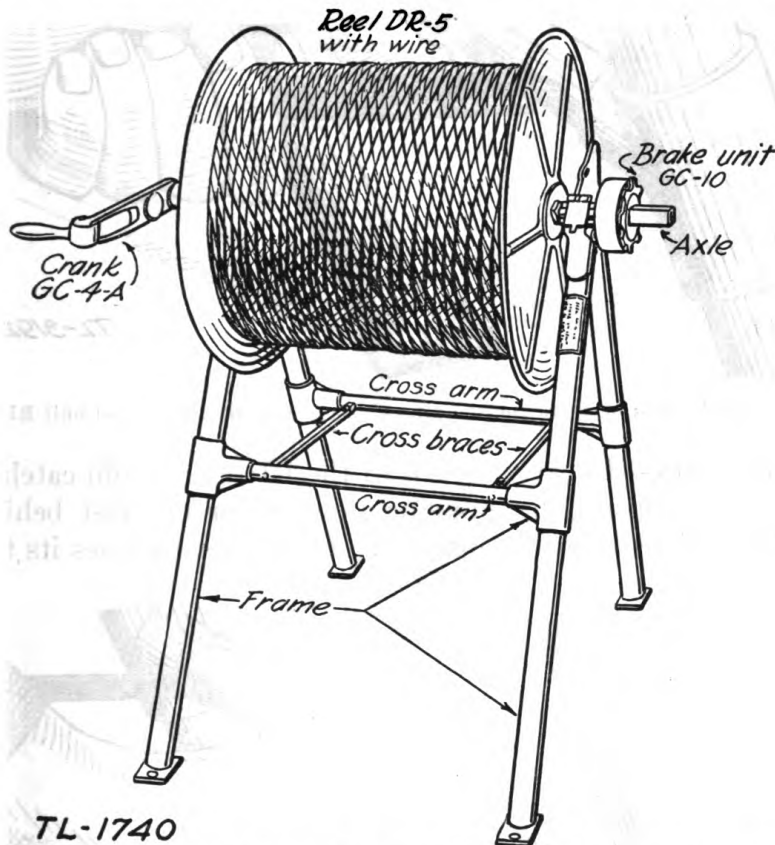
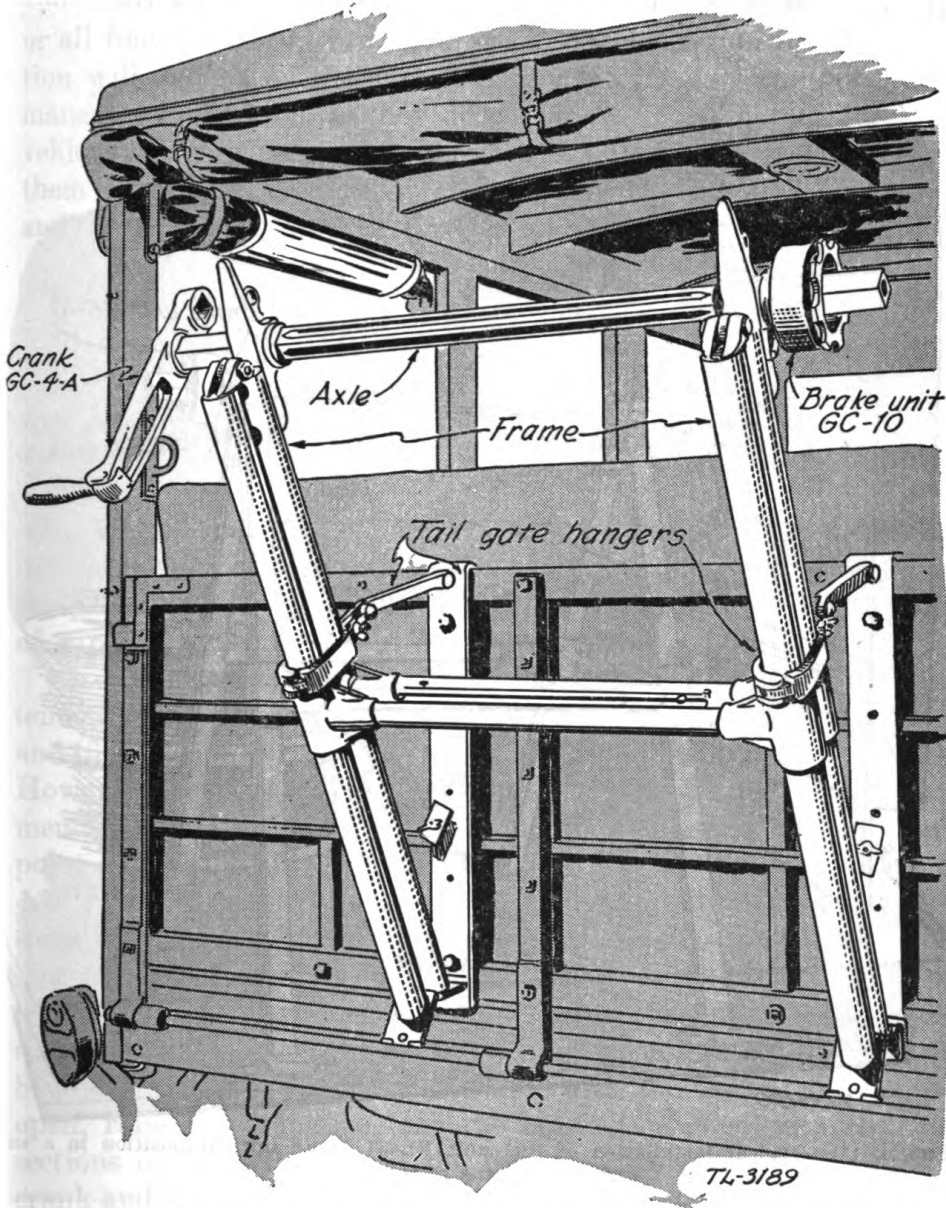
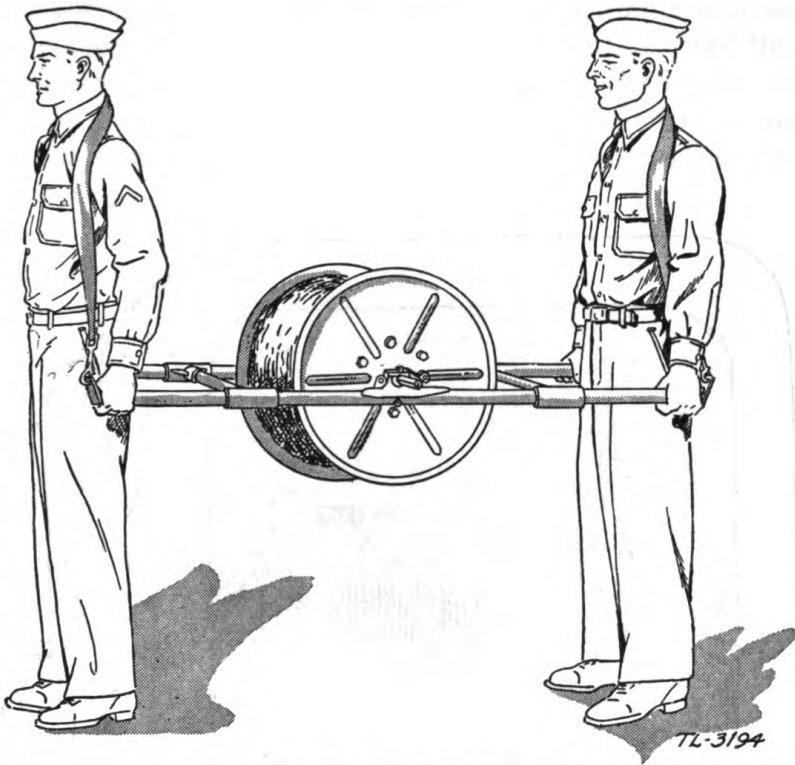

FIGURE 2.—Reel unit RL-31 completely set up, with a Reel DR-5 in place. Note how the two cross braces keep the frame locked in a letter A position.
FIGURE 10.—Folded-up RL-31 mounted on back of a station wagon by means of tail gate hangers. Note how top clamps encircle both legs and hold them securely.
FIGURE 14.—Convenient means of carrying reel unit RL-31 loaded with mile of wire on reel DR-5.
lines, the unit can also be transported by two men in litter fashion (fig. 14), set up on the ground at any selected point (figs. 2 and 12), and the wire then pulled out by hand.
2. Frame.—*a. General.*—The frame of the reel unit RL-31 consists of two H-shaped sections of aluminum-alloy pipe hinged together. Directly above the joint of each section is an open bronze bearing with a hinged cap to take the axle. As an upright standard for the DR-4 or DR-5 reel (fig. 2), the frame is usually opened to
wagon” type of vehicle. They are bolted permanently in place, as shown in figure 10, and the folded frame is then set into them. The tail gate must be at least 21 inches deep to accommodate these hangers. If it is shallower, they cannot be used, and the toe clamps should be employed instead.
10. Transportation.—*a. General.*—The reel unit RL-31 is intended for use mainly in small trucks, as indicated in figures 10, 11, and 13. Two lines can be payed out rapidly and also recovered rapidly. However, for short local lines, the unit can also be transported by two men in litter fashion (fig. 14) set up on the ground at any selected point (figs. 2 and 12), and the wire then pulled out by hand.
b. Litter carry.—(1) Place the loaded reel on the ground, with the sides upright. Fold the cross braces of the RL-31 flat against the cross arms and open up the double H-frames. The heavy castings on which the axle bearings are mounted will keep the assembly open in a straight line. Place the frame over the reel and rest it on the ground. Slip the axle through the reel, and, with the hinged bearing caps open, raise the frame so that the bearings engage with the round sections of the axle. Snap the bearing caps closed and attach the crank and the brake unit.